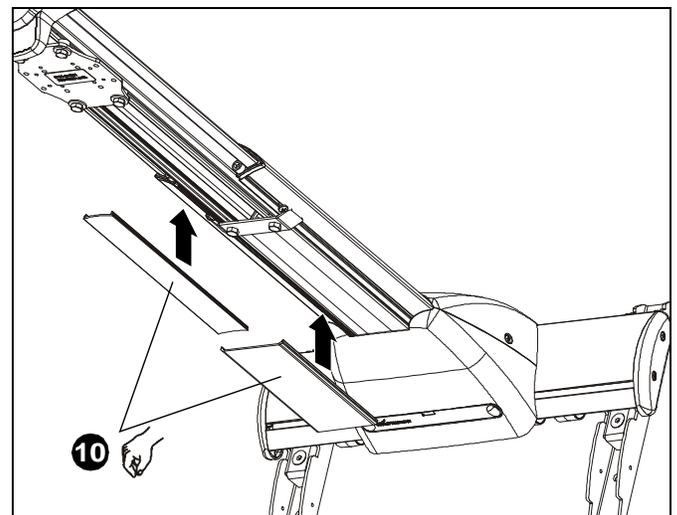

Figure 31
10. Replace removed cable management covers (if necessary). Insert one side of cover into groove and press firmly on the cover on the other side until it snaps into the other groove. (See Figure 31)